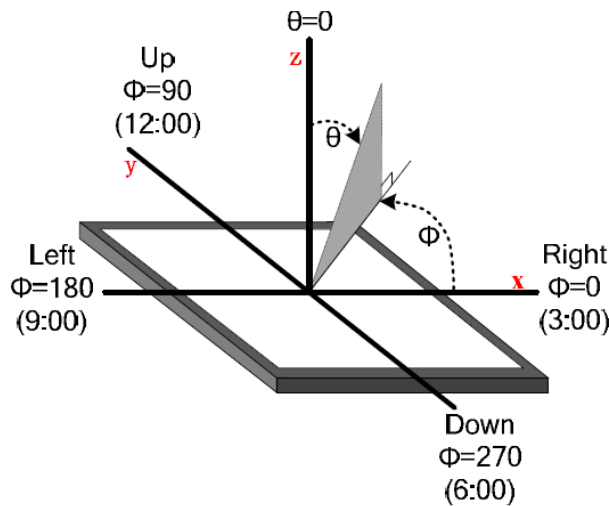

FIG 4. The definition of Gamma curve.
- *Note 8.** Gamma test standard: First using customer's standard, IF no, using TRULY Internal Standard: (2.2±0.4), white and gray scale screen(not show RGB).For more information see FIG4 . Test equipment is MSE or CA210.
Gamma测试标准: 优先按客户标准, 客户无要求则按信利内部标准 (2.2±0.4), 白色灰阶画面(不区分RGB)。详见FIG4。测试设备: MSE or CA210。